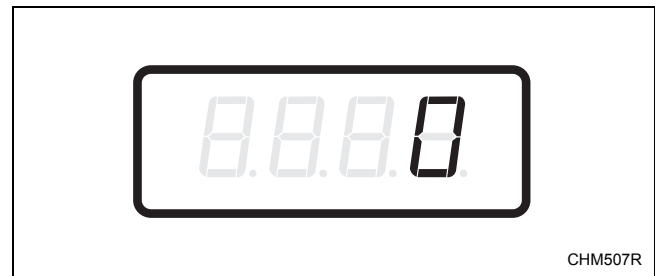

Figure 7
2. When “SA11” appears in the display, press the START (enter) keypad. There are five digits in the Special Vend A Heat Price. The fifth digit will appear in the display and will flash one second on and one second off. Refer to *Figure 7*.